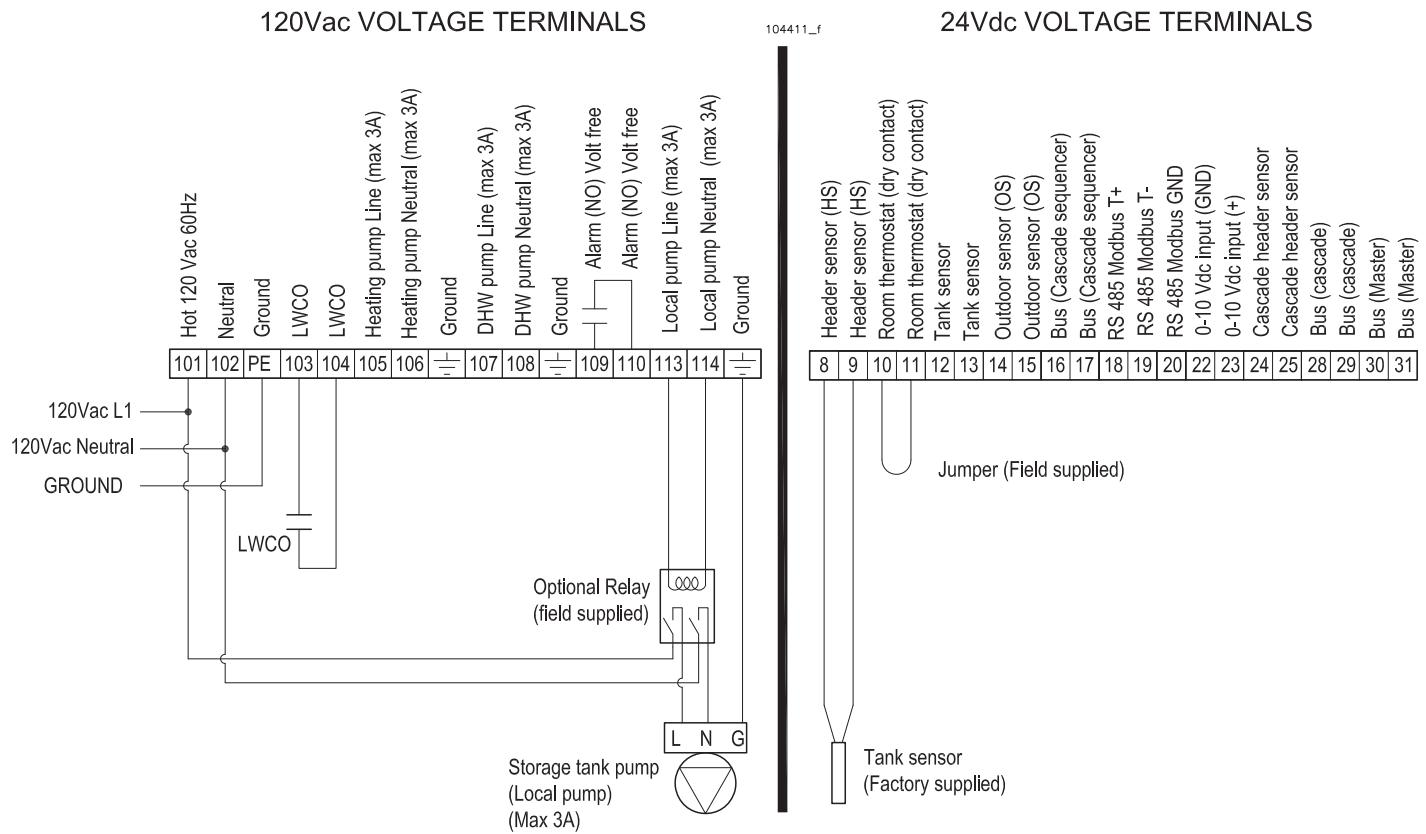

Figure 10-5 Electrical customer connection for AM - W water heaters
2. The storage tank pump (Local pump) must be connected to terminals "113" and "114" (See Figure 10-5) (a field supplied pump relay must be installed if the pump current draw is greater than 3 amps).
3. Remove header sensor present on terminals "8" and "9" of Figure 10-5;
4. The storage tank temperature sensor must be connected to terminals "8" and "9" (See Figure 10-5). The sensor must be placed into the storage tank in a way that can detect the water temperature (Follow the storage tank instruction).